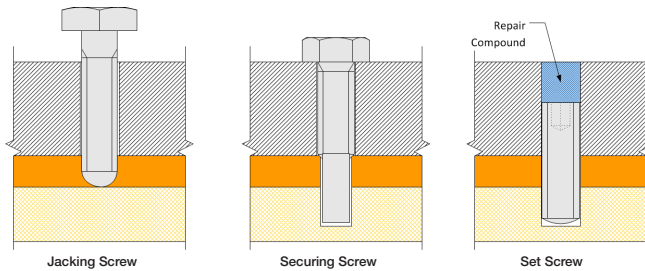

Figure 9
21. The alignment screws may be removed and replaced with set screws to assist in locking the sterntube or bearing in place, if desired. (If this is done, a drawing in the ship's file should indicate the fact.) See Figure 9.